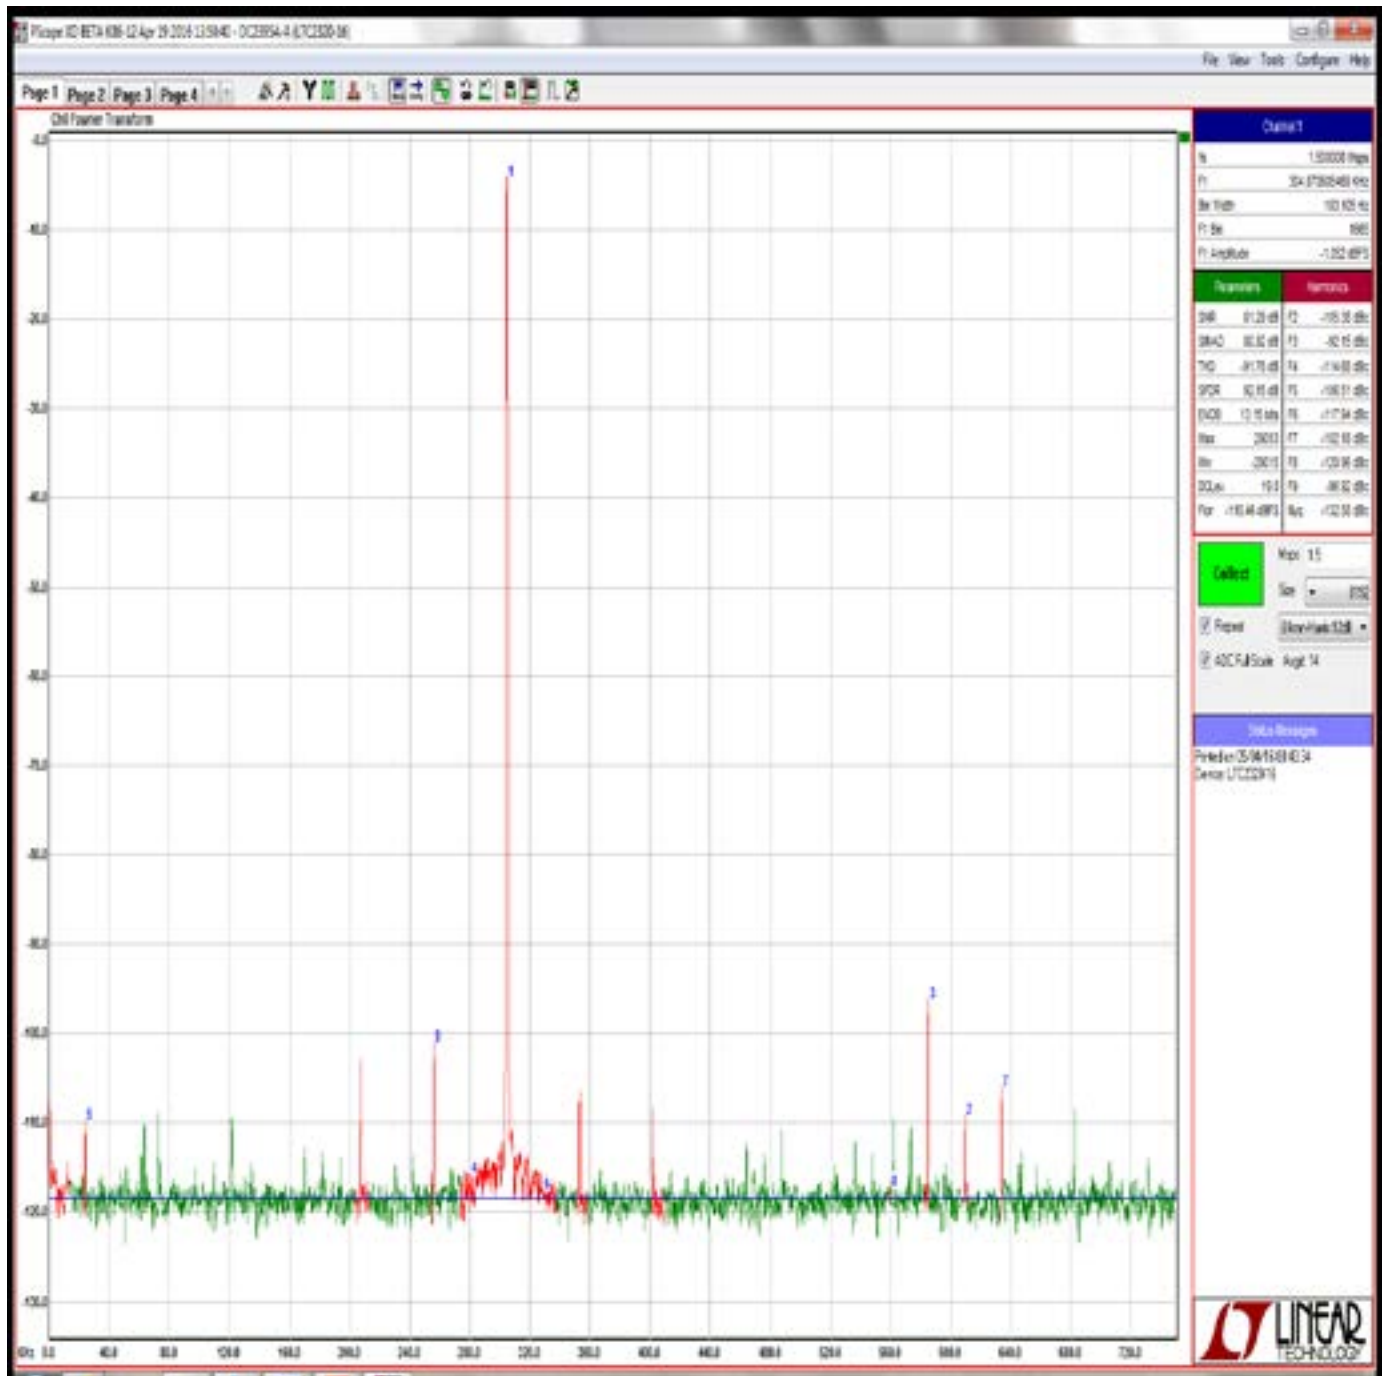

Figure 2. DC2395A PScope Screenshot
- Click the Collect button (Figure 2) to begin acquiring data. The Collect button then changes to Pause, which can be used to stop data acquisition.